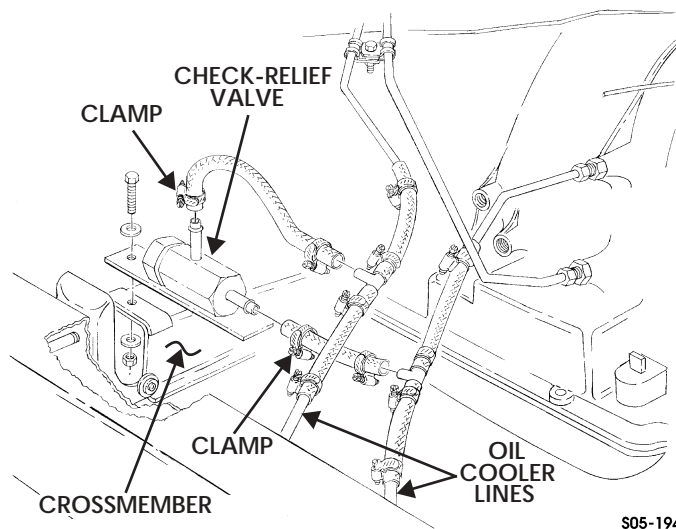

Figure 5-84: Transmission Check-Relief Valve
1. Loosen clamps and disconnect two oil cooler hoses from check-relief valve (Figure 5-84).
1. Install check-relief valve on frame with two washers, cap-screw, and nut. Tighten capscrew to 90 lb-ft (122 N•m) (Figure 5-84).